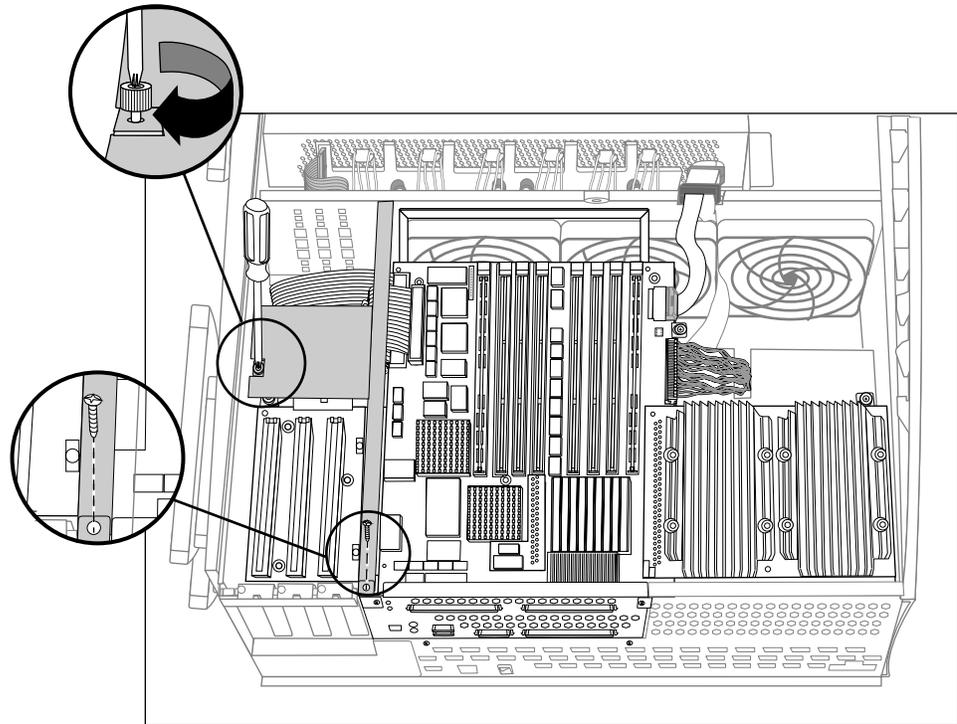

Figure 5-13 Fastening the PCI Plenum Divider
4. Install the PCI plenum divider sheetmetal as shown in Figure 5-13.
5. Fasten the PCI plenum divider by tightening the captive screw and installing the sheetmetal screw, as shown in Figure 5-13.